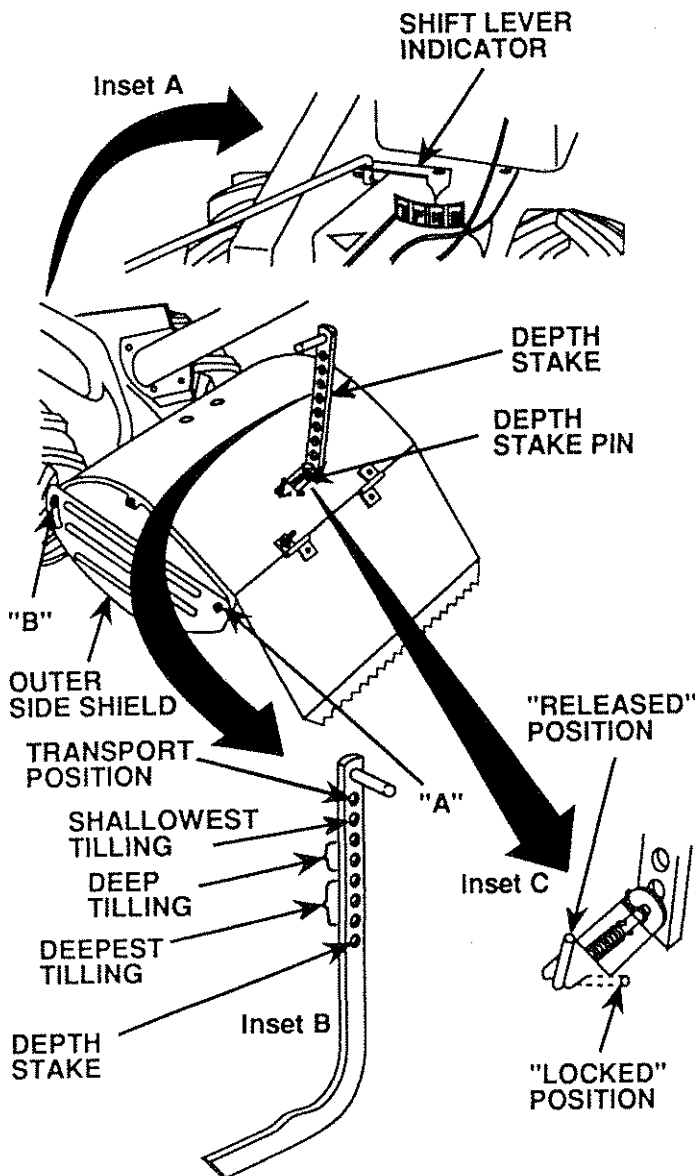

FIGURE 14
- b. Move Shift Lever Indicator to "N" Neutral position (Fig. 14-Inset A).
- a. Release the Depth Stake Pin (Fig. 14-Inset C). Move the Depth Stake (Fig. 14-Inset B) down to the top hole for transporting the Tiller. Place Depth Stake Pin in hole of Depth Stake to lock in position (Fig. 14-Inset C). This prevents Tines from scuffing the ground.
- b. Place Shift Lever Indicator (Fig. 14-Inset A) in "F" Forward position for transporting.